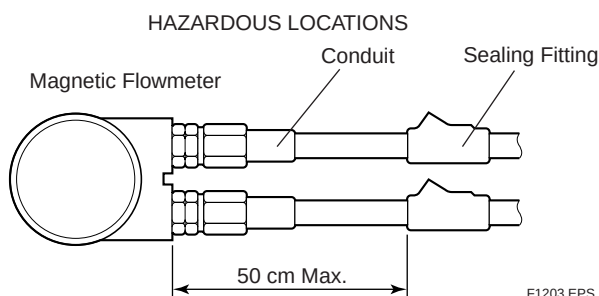

Figure 12.3.1 Conduit Wiring
(2) Installation**For CSA C22.2 Series****WARNING**
- In hazardous location, wiring shall be in conduit as shown in Figure 12.3.1.